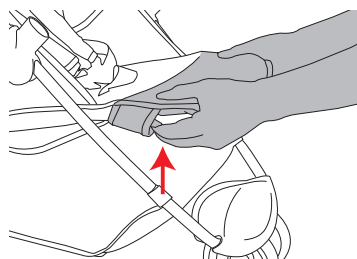

Figure 13
- To place the leg support into the down position, locate the trigger mechanism underneath BOTH sides of the leg support on the bottom. Squeeze BOTH triggers and rotate the leg support down. See Figure 13.